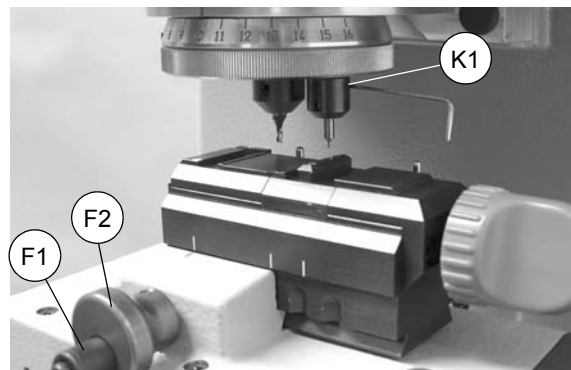

Fig. 39
- Loosen grub screw (K1) (fig. 39).
- Tighten the grub screw (K) to secure the decoder.
- Tighten the grub screw (K1) (fig. 39, page 43).
- Turn the (F) knob to the left and remove the Z22 template.